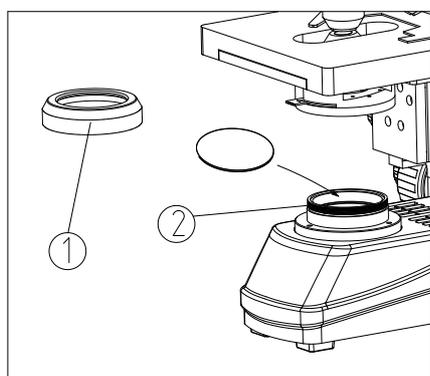

Fig. 17
Screw off the condenser cover ① from condenser base ②, and put the filter into the groove of condenser base ②, and then screw on the condenser cover ① (see Fig. 17).